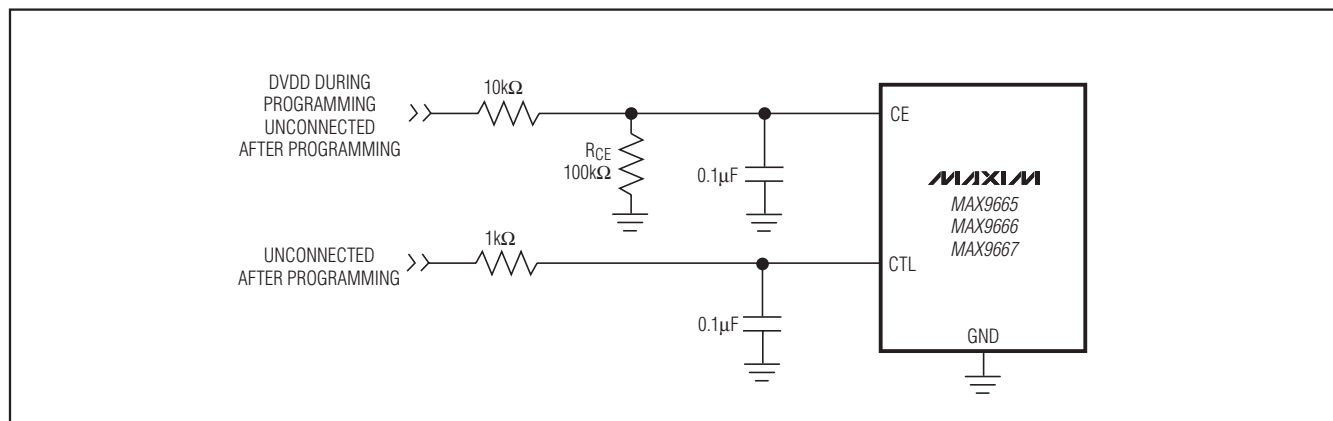

Figure 14. Improved EOS/Surge Performance
Often, CTL and CE are exposed at the panel connector and are therefore subject to electrostatic discharge (ESD). Resistor-capacitor (RC) filters can be employed at these inputs to improve their ESD performance (Figure 14).